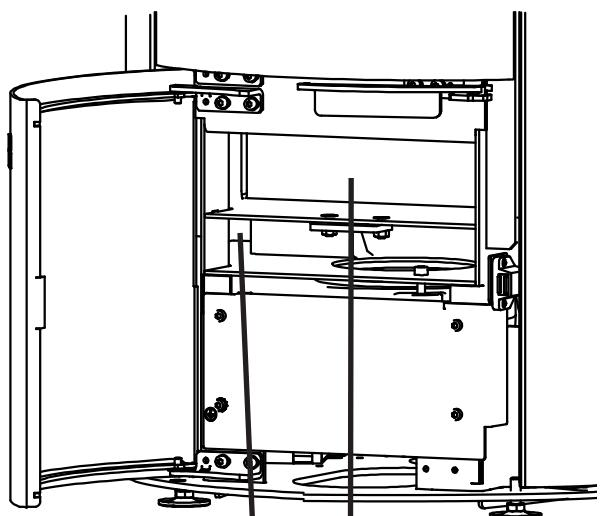

Fig.7b 12 13
- The ash box is behind the inspection door. For cleaning, release the locking mechanism of the ash box and pull the ash box forward and out. Also clean the area below the ash box compartment (see Fig.7b).